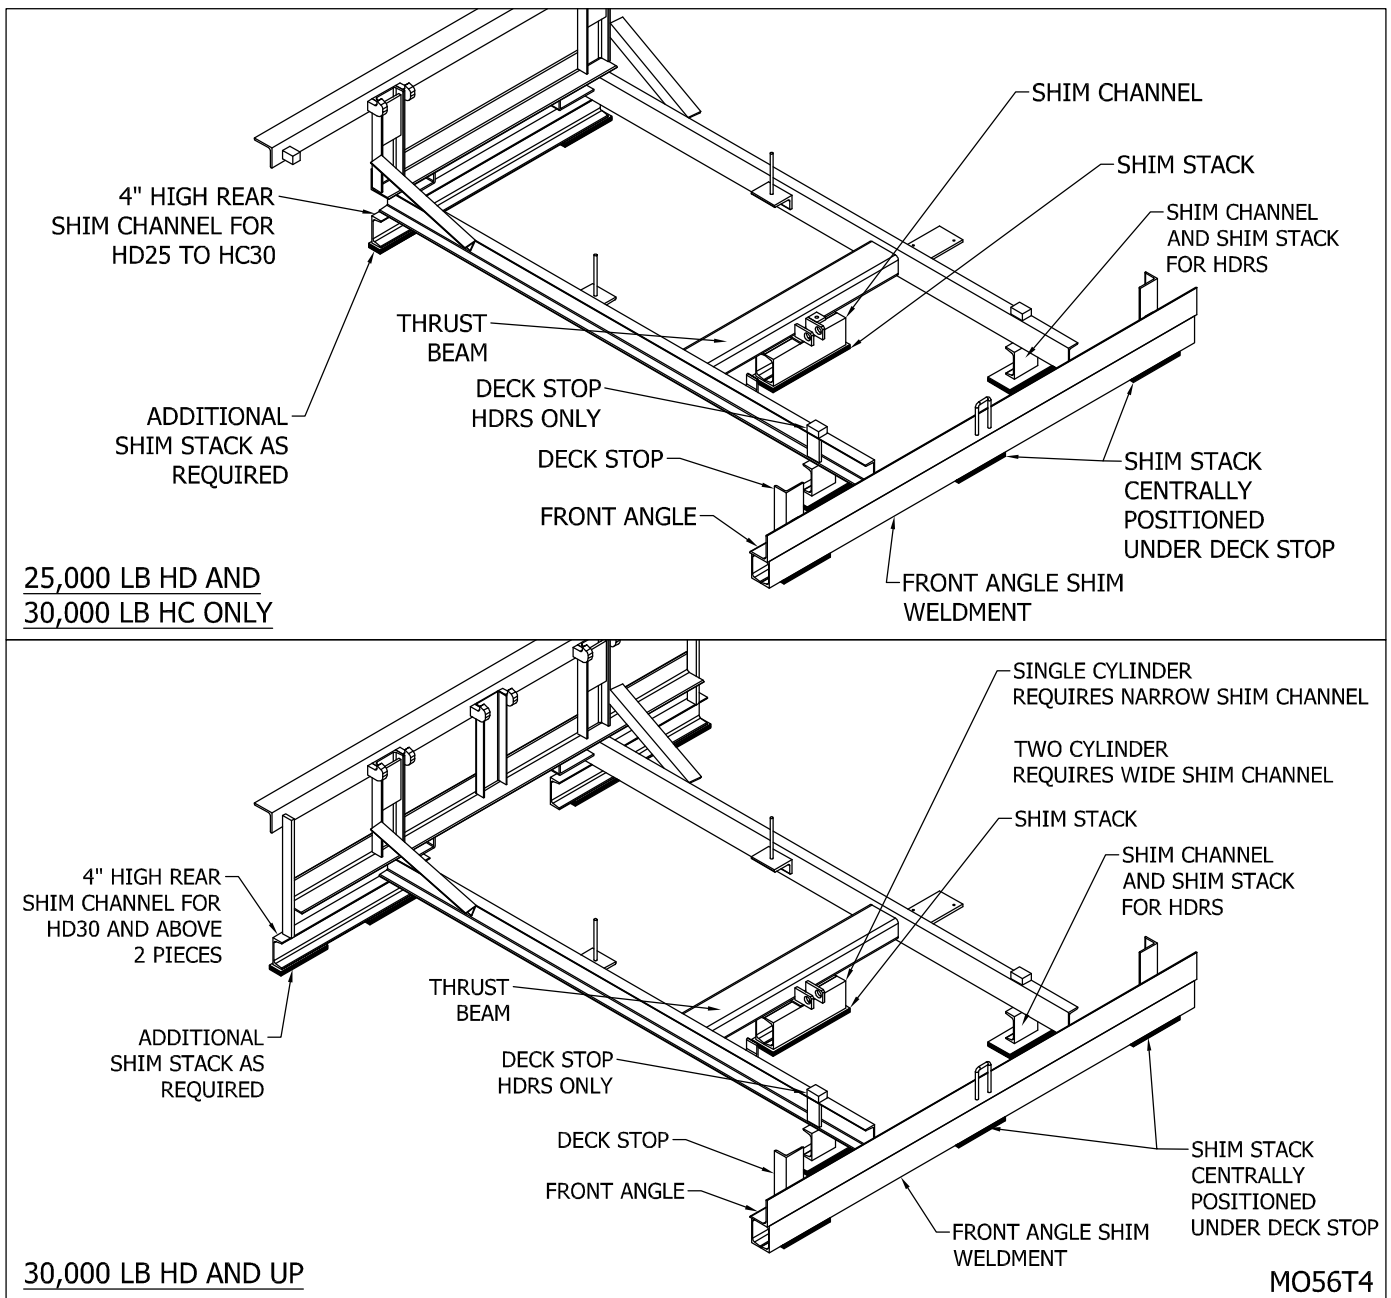

Figure 24: Installation Shims (4" Shim Kit Channel Shim Shown)
2. ___ Place the front-angle shim assembly into the pit at the front edge, centered across the dock leveler and pit width. When the front-angle shim is constructed of C-channel (3” & 4” shim kits) ensure the short pieces (12” long) on each end are installed toward the inside of the pit. See “Figure 24: Installation Shims (4” Shim Kit Channel Shim Shown)” on page 19.
8. Lower the dock leveler until the front angle of the dock leveler rests on the front-angle shim. Ensure the front-angle shim assembly is flush with the front angle of the dock leveler frame. "Figure 24: Installation Shims (4" Shim Kit Channel Shim Shown)" on page 19.
14. Add shims (3" x 4" x required thickness) to increase the front height of the dock until the deck plate is flush with the dock height (or at desired final level). Ensure shims are located beneath the front-angle shim at the location of the two deck stops as well as at the center of the front angle. (See "Figure 24: Installation Shims (4" Shim Kit Channel Shim Shown)" on page 19) All shims are to be minimum ASTM A-36 or CSA G40.21 material.
20. ___ Weld the 4" long cylinder shim assembly(s) to the underside of the cylinder thrust beam with the front of the cylinder shim assembly flush with the front edge of the clevis support plate. ("Figure 24: Installation Shims (4" Shim Kit Channel Shim Shown)" on page 19)
2. ___ Place the front-angle shim assembly into the pit at the front edge, centered across the dock leveler and pit width. When the front-angle shim is constructed of C-channel (3" & 4" shim kits) ensure the short pieces (12" long) on each end are installed toward the inside of the pit. "Figure 24: Installation Shims (4" Shim Kit Channel Shim Shown)" on page 19.
10. ___ Lower the dock leveler until the front angle of the dock leveler rests on the front-angle shim. Ensure the front-angle shim assembly is flush with the front angle of the dock leveler frame. "Figure 24: Installation Shims (4" Shim Kit Channel Shim Shown)" on page 19.
16. ___ Add shims (3” x 4” x required thickness) to increase the front height of the dock until the deck plate is flush with the dock height (or at desired final level). Ensure shims are located beneath the front-angle shim at the location of the two deck stops as well as at the center of the front angle. (See “Figure 24: Installation Shims (4” Shim Kit Channel Shim Shown)” on page 19) All shims are to be minimum ASTM A-36 or CSA G40.21 material.
22. ___ Weld the 4” long cylinder shim assembly(s) to the underside of the cylinder thrust beam with the front of the cylinder shim assembly flush with the front edge of the clevis support plate. (See “Figure 24: Installation Shims (4” Shim Kit Channel Shim Shown)” on page 19)